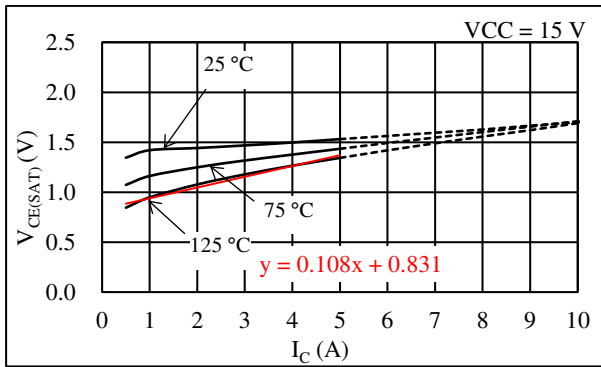

Figure 14-1. Linear Approximate Equation of  $V_{CE(SAT)}$  vs.  $I_C$
Steady-state loss in an IGBT can be computed by using the VCE(SAT) vs. IC curves, listed in Section 15.3.1. As expressed by the curves in Figure 14-1, a linear approximation at a range the IC is actually used is obtained by: VCE(SAT) = α × IC + β. The values gained by the above calculation are then applied as parameters in Equation (4), below. Hence, the equation to obtain the IGBT steady-state loss, PON, is: